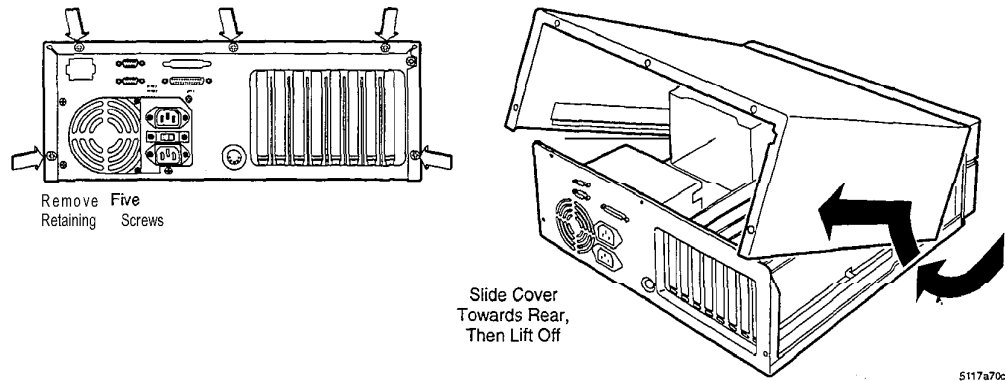

Figure 1 Remove the Cabinet Cover
5. Remove the five retaining screws from the cover (6-32 hex head Phillips screws) at the back of the cabinet. See Figure 1 for the locations of the screws.
6. Standing behind the server, hold both sides of the cover at the back and press against the back panel with your thumbs. This pops the cover loose. Slide it toward the back one inch. Then lift the cover up. See Figure 1 for details.